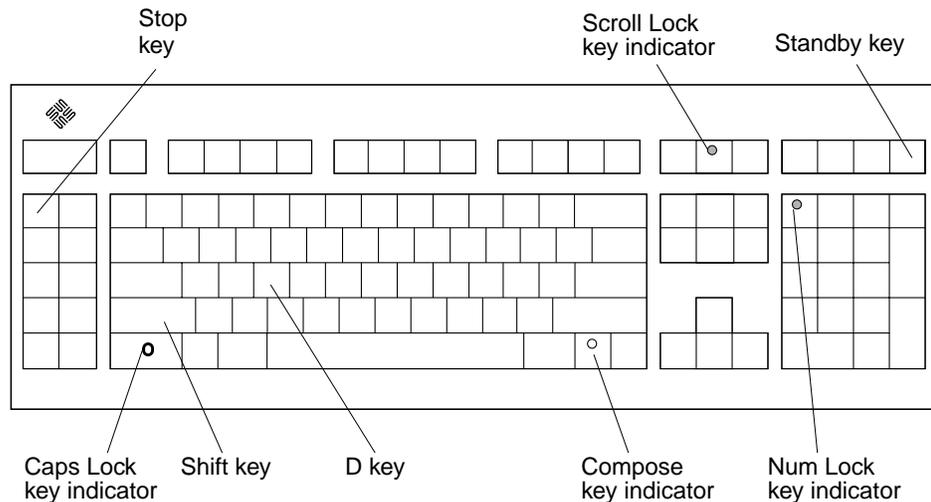
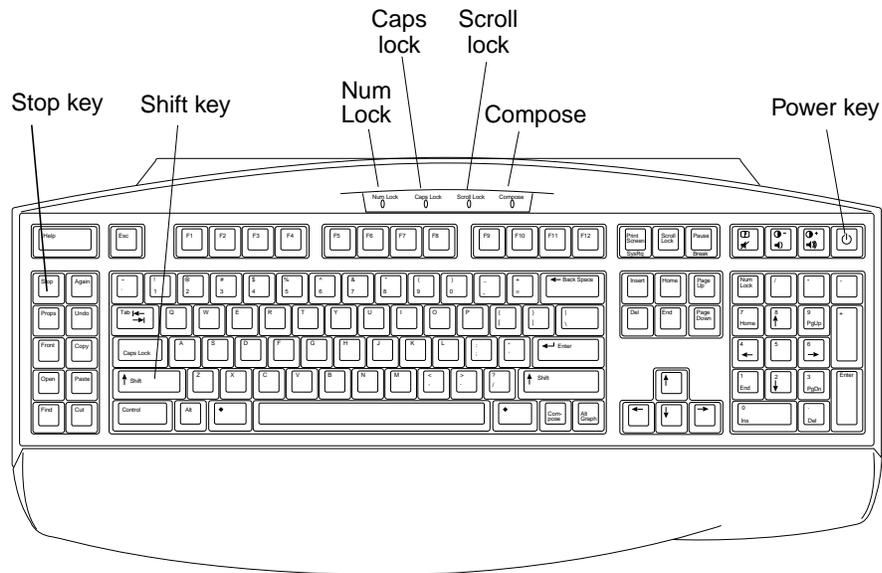

FIGURE 3-2 Sun Type-5 Keyboard
FIGURE 3-3 Sun I/O Type-6 Keyboard
2. At the keyboard (Sun Type-5 or Sun I/O Type-6), power-cycle the system by simultaneously pressing the Shift key and the Standby (Power) key. After a few seconds, press the Standby (Power) key again (see FIGURE 3-2 or FIGURE 3-3).